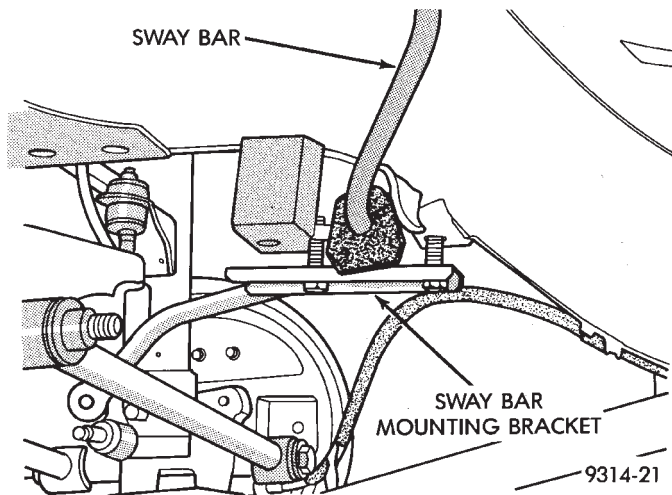

Fig. 7 Holding Sway Bar In Place
(15) To prevent sway bar from falling down, install sway bar mounting brackets with bolts finger tight (Fig. 7).
(16) Center transmission jack. Lower jack enough to provide access to the fuel line and electrical connections on the fuel pump module at the top of the tank.
(17) Disconnect electrical connector from fuel pump module.